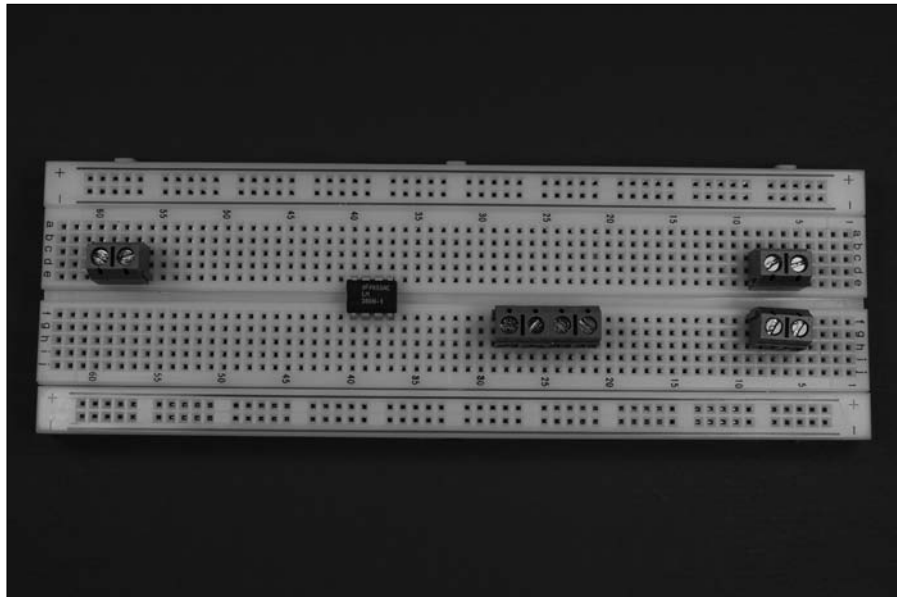

Figure 6-5:
1. Place LM386N-1 (IC2) and five terminal blocks (TB) on the breadboard, as shown in Figure 6-5.